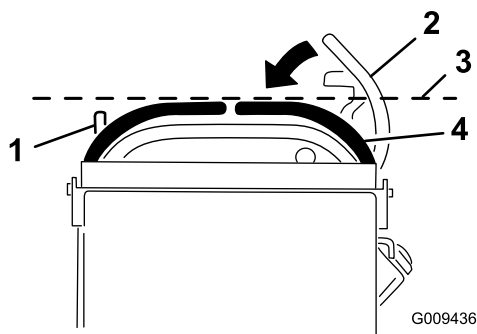

Figure 69
3. Push the right motion control lever down out of locked neutral position (Figure 69).
4. Check if it aligns horizontally with the left motion control lever (Figure 69).